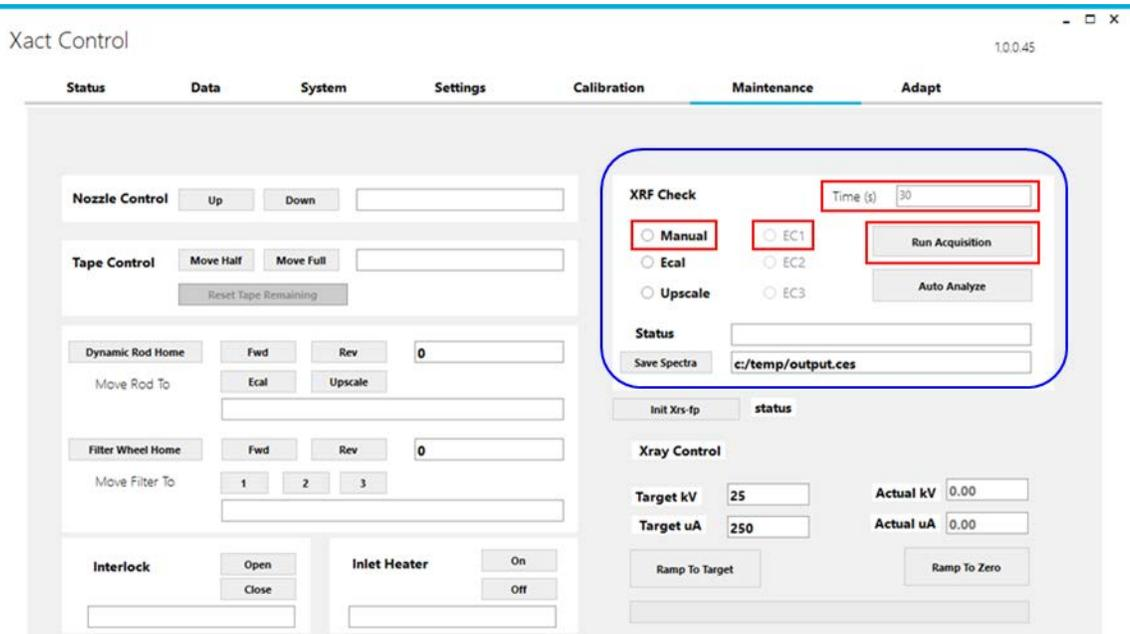

Figure 10.10 Settings for XRF Calibration Check for Ca Element Standard
- 10.6.12 Within 'XRF Check' section (**Figure 10.10**)